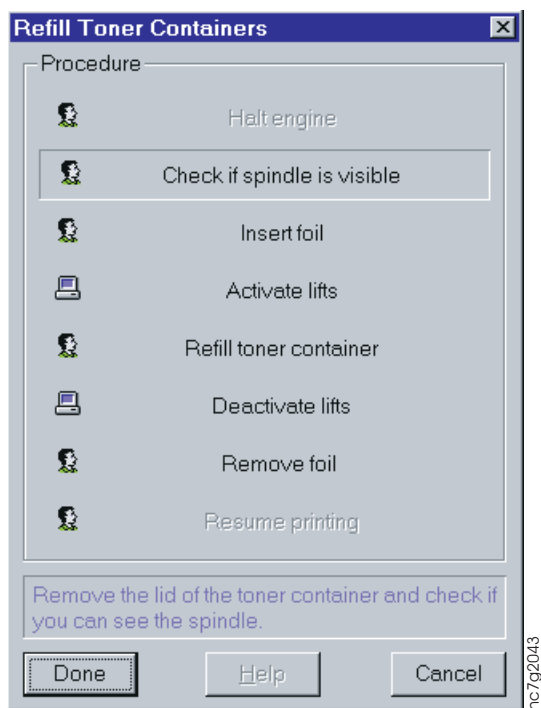

Figure 279. Refill Toner Containers Window
1. Open the **Refill Toner Containers** window, as shown in Figure 279 on page 304.